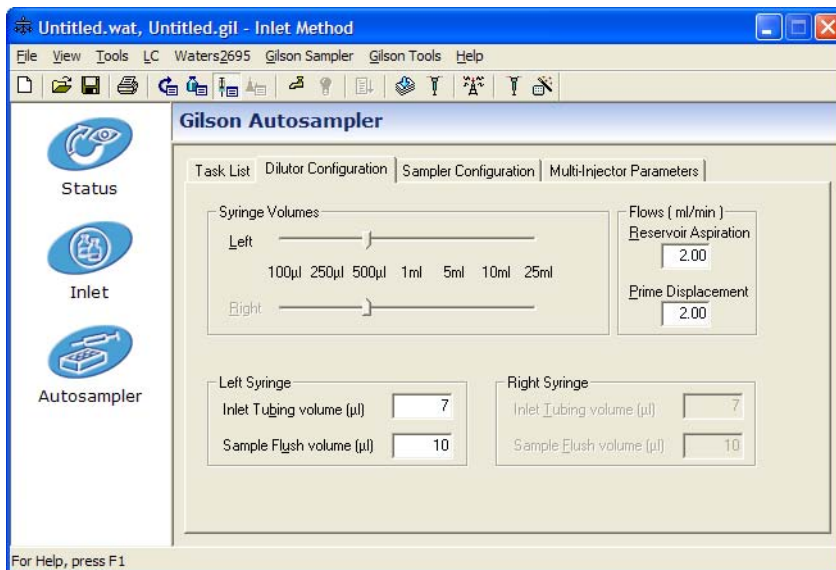

Figure G-13 Autosampler Parameters: Dilutor Configuration
18. Select the Dilutor Configuration page (Figure G-13) and confirm that the parameters match the hardware.